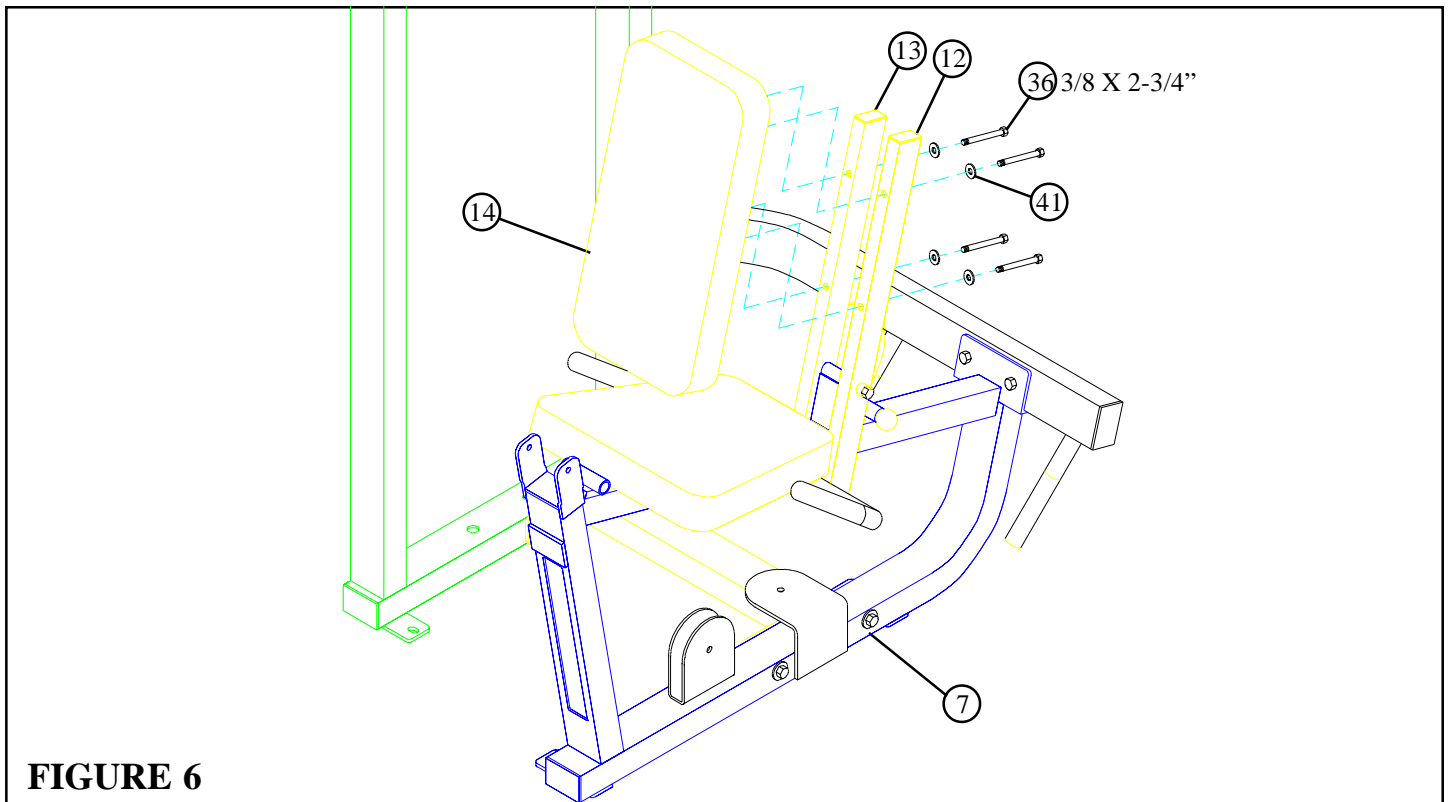

FIGURE 6
- **SECURELY** assemble BACK PAD (14) to the RIGHT & LEFT PAD SUPPORTS (12) (13) using four 3/8 X 2-3/4" BOLTS (36) and four 3/8" WASHERS (41) as shown in FIGURE 6.